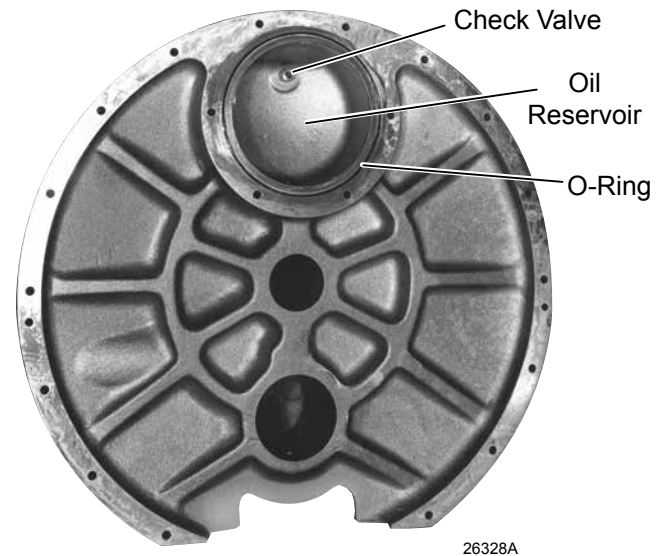

FIGURE 48 - BEARING HOUSING
1. Install a new O-ring in the groove around the oil reservoir cavity (see *Figure 48 on page 39*). Coat the O-ring with a suitable O-ring lubricant to hold it in the groove.
2. Insert (2) guide pins 180° apart into the rotor support.